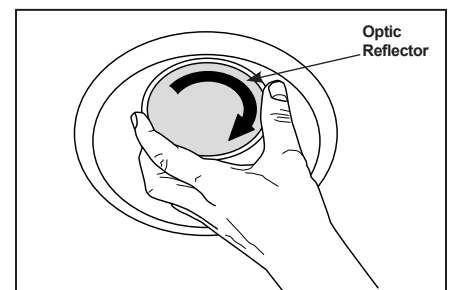

Figure 10
**Step 2.** Locate the OPTIC REFLECTOR that was packaged with the remodel housing and take note of the flange details at the top of the part. Install the OPTIC REFLECTOR by aligning and inserting it into the fixture and rotating it 1/4 turn clockwise until it stops (Figure 10).
**Step 1.** Locate the OPTIC REFLECTOR that was packaged with the remodel housing and take note of the flange details at the top of the part. Install the OPTIC REFLECTOR by aligning and inserting it into the fixture and rotating it 1/4 turn clockwise until it stops (Figure 10).